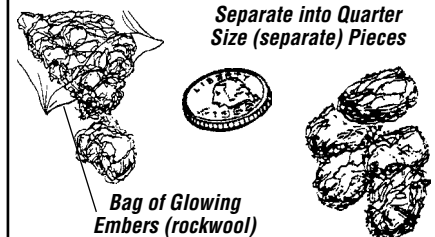

Figure 7
5. **Placement of Glowing Embers** - Separate the Embers (rockwool) into pieces about the size of a quarter (see *Figure 7*). Keep the pieces fluffed up, not matted. Distribute these pieces over the surface of the burner, as shown in *Figures 8 & 9*. Do not use more than is necessary. Ensure that the main burner slots remain uncovered by the ember material.